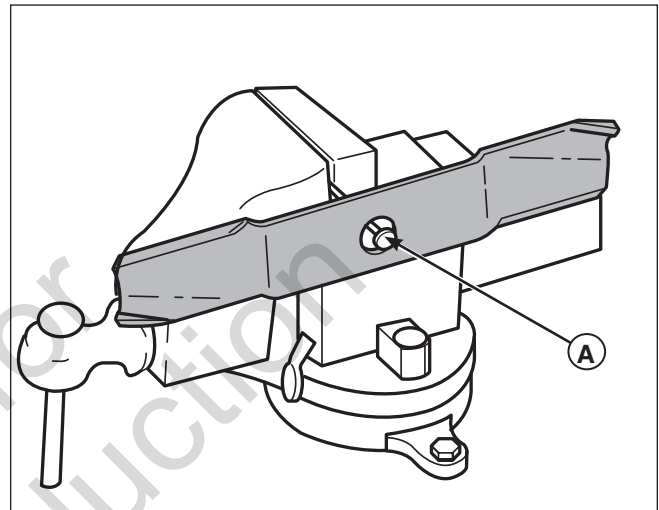

Figure 30. Balancing the Mower Blade
2. See Figure 30. Put the mower blade on a nail in a vise and turn the mower blade to the horizontal position.